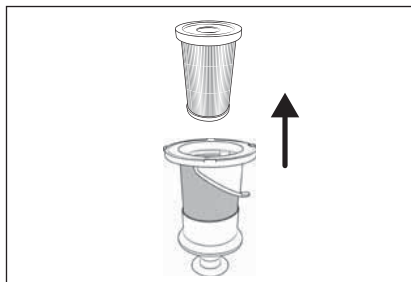

Fig. 24
- 4) Remove the EPA filter **5** from the stainless steel filter **6** by reaching into the opening of the EPA filter **5** and pulling it out of the stainless steel filter **6** (see Fig. 24).